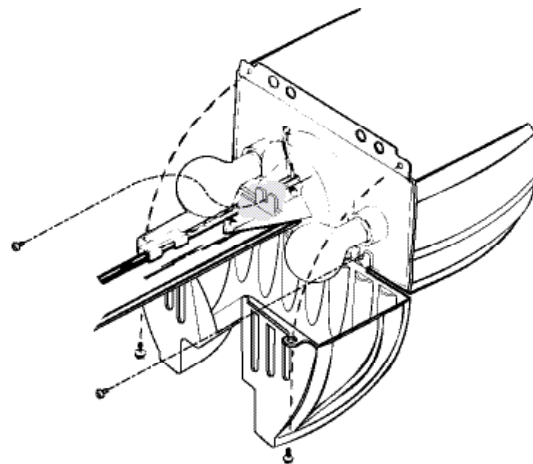

Figure 14 Attach Lens
- Hold the lens, with the bottom hinges pointing up, against the power head metal front cover (**Figure 14**):
- Insert (2) #8-32 x 3/8" Phillips Hex Head Screws through the Bottom hinges and into holes provided in metal front cover of Power Head (**Figure 14**). Tighten screws.
- Flip Lens up and fasten with (2) #8-32 x 3/8" Phillips Pan Head Screws where indicated.